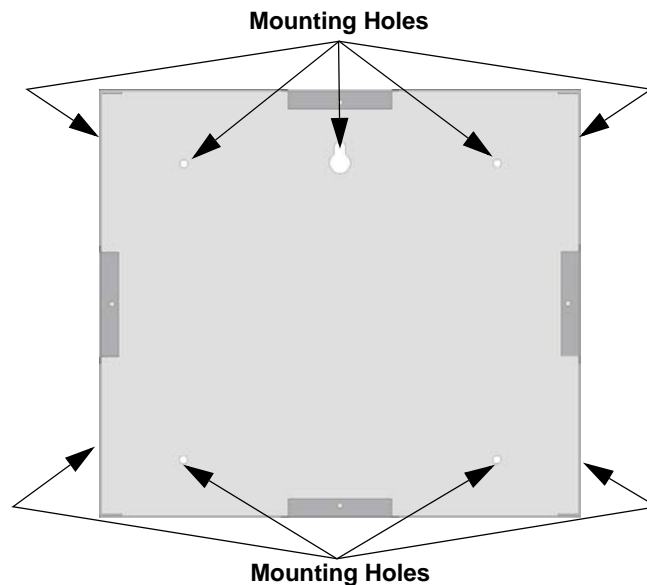

Figure 4.23 Back Box Mounting Holes
1. The back box dimensions are 9¼" W x 8 3/8" H. The minimum depth required is 2". The back box can be mounted prior to the complete installation of the 6860 using any of the mounting holes shown in Figure 4.23.